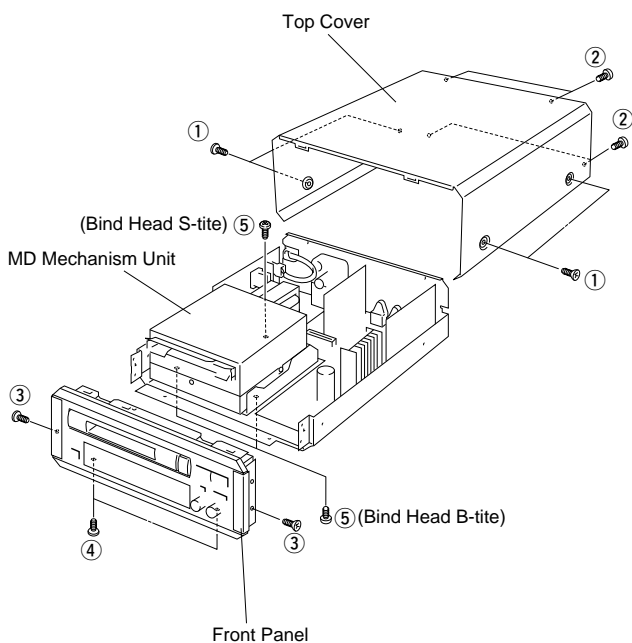

Fig. 1
- a. Remove 4 screws ( ① ) and 4 screw ( ② ) in Fig. 1.
- b. Remove 2 screws ( ③ ) and 2 screws ( ④ ) in Fig. 1.
- b. Remove 4 screws ( ⑤ ) in Fig. 1.